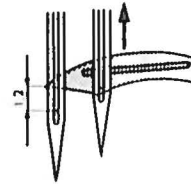

fig. 5
- Check that the point of the looper, in its stroke to the left, when it is exactly in the lefthand tangent of the outside needle, is 1.2 mm (3/64”) above the upper tangent of the outer needle eye (fig. 5).